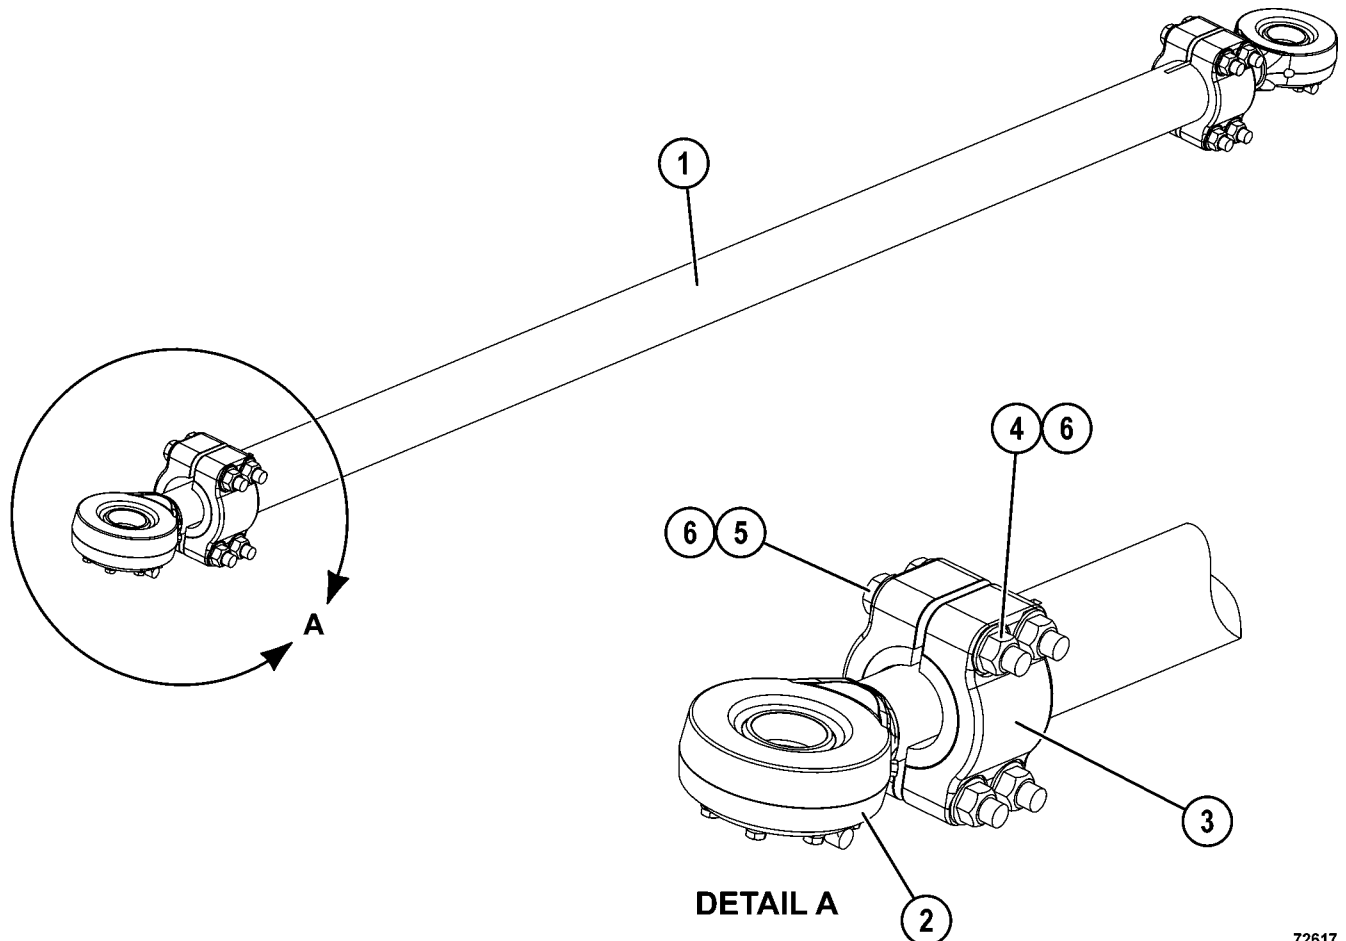

FIGURE 3-17. NEW TIE ROD ASSEMBLY
- a. Loosen clamp locknuts (4, Figure 3-17) on the tie rod. Rotate the tie rod structure as necessary to obtain the correct toe-in setting of 3 667 mm (144.37 in.).
- b. Make sure that capscrews (5) are parallel to the ground as shown, and the gap between clamps (3) is aligned with the slot in the tie rod structure.
5. Tighten capscrews (5, Figure 3-17) to **1017 ± 102 N·m (750 ± 75 ft lb)**.